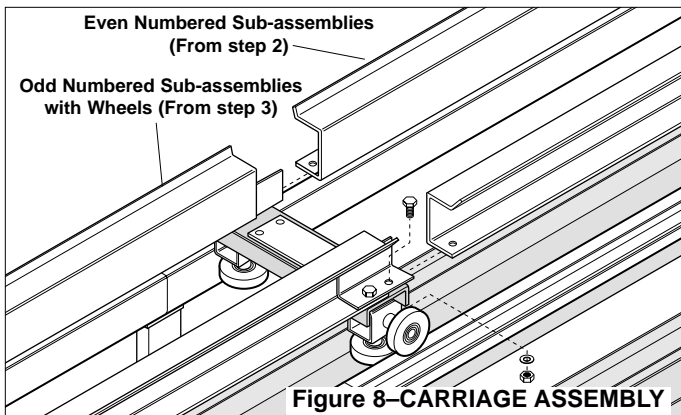

Figure 8-CARRIAGE ASSEMBLY
5) Insert one of the assemblies without wheels (step 2) between the first and third assemblies (Fig. 8). Bolt securely in place and "test roll" this 18' section to check for binding.
7) Slide two wheel supports with anti-lift hooks onto tail end of C-Channel rail. Assemble wheel supports, carriage sheave & bracket assembly and two shorter carriage rail sections (per print) as shown in Figure 8. Attach this sub-assembly to carriage as in Step 5.